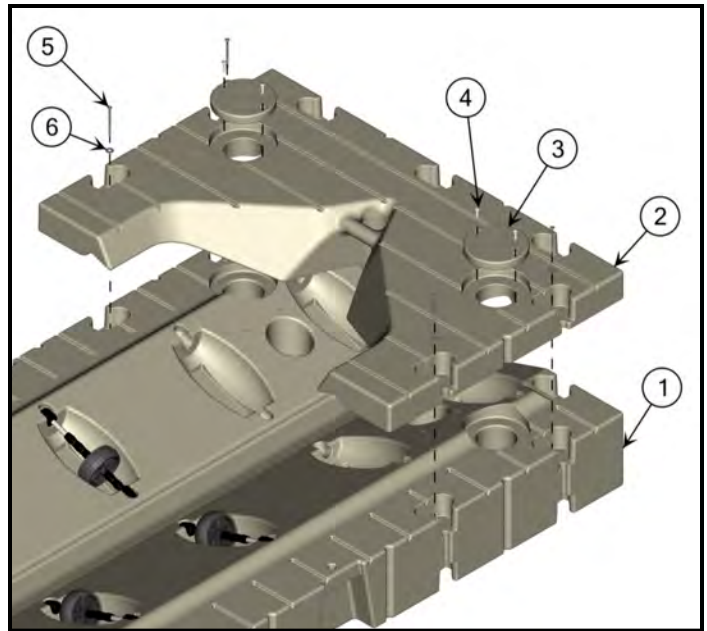

Figure 4.
- The full bow section (Item 2) must be used to attach the EZ Port MAX to new or existing EZ Dock floating docks and provides additional walking surface, (Figure 4). To install, place the full bow section onto the front of the entry section and align the front with the front of the entry. Install four (4) bolts and washers (Items 5 & 6) into the holes as indicated below and tighten.
Step 3: Assemble a Full Bow Section at the front of the EZ Port MAX Extension. (See page 11, Figure 4 for Full Bow Section assembly instructions).